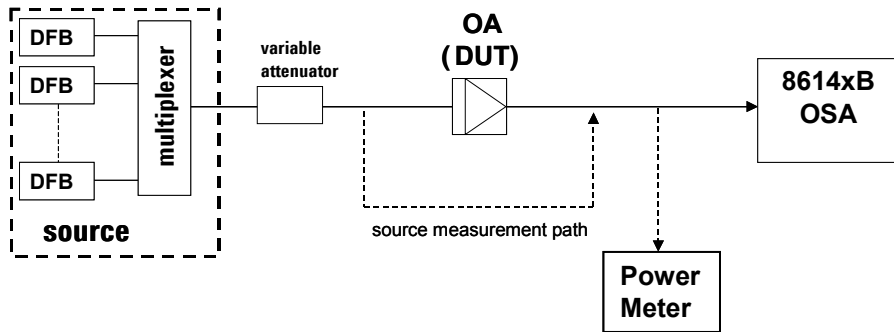
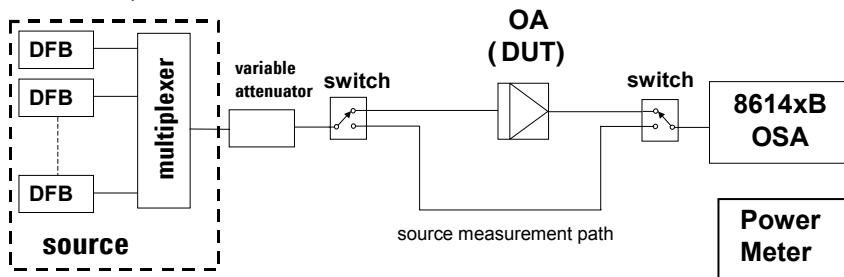

Figure 1-1. Patch cord used to bypass the DUT
Figure 1-2. Optical Switches to bypass the DUT
There are two possible equipment configurations. Figure 1-1 uses a patchcord to bypass the DUT for source calibration while Figure 1-2 uses optical switches to bypass the DUT.
- 10 After measuring and verifying the path offsets, you can connect the amplifier under test as in Figure 1-1.
- 16 After measuring and verifying the path offsets, you can connect the amplifier under test as in Figure 1-2.